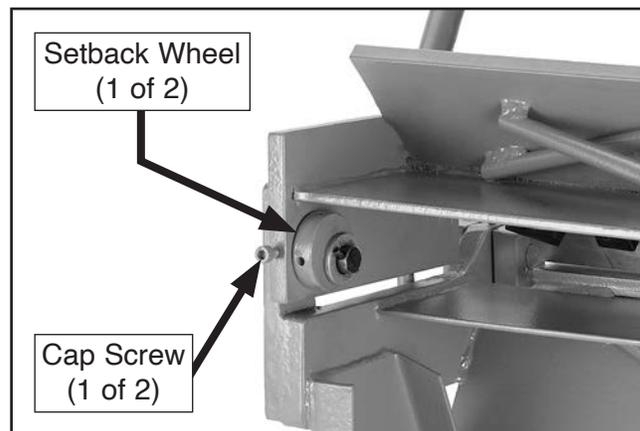

Figure 15. Location of setback wheel and cap screw.
3. Loosen cap screws securing setback wheels (see **Figure 15**).